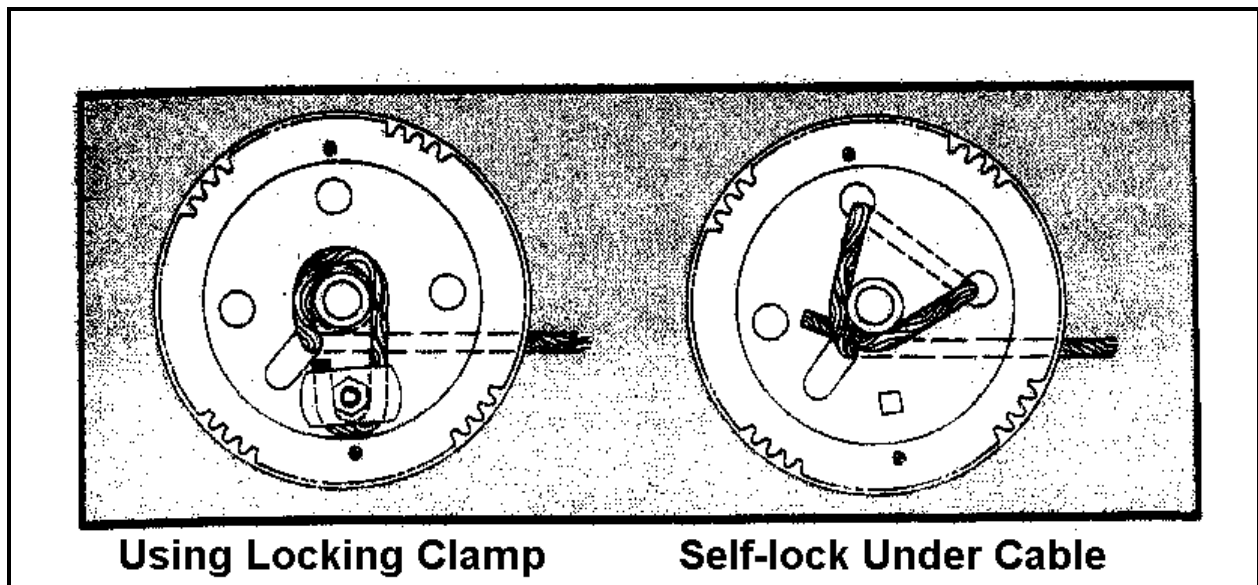

Figure 15. Attachment of Furling Cable to Winch
6. Attach the lower end of the furling cable to the winch by threading the cable through the long slot in the side of the cable drum and securing the cable end as shown in **Figure 15**. There are two alternative attachment methods; BWC recommends the method using the cable clamp provided with the winch.